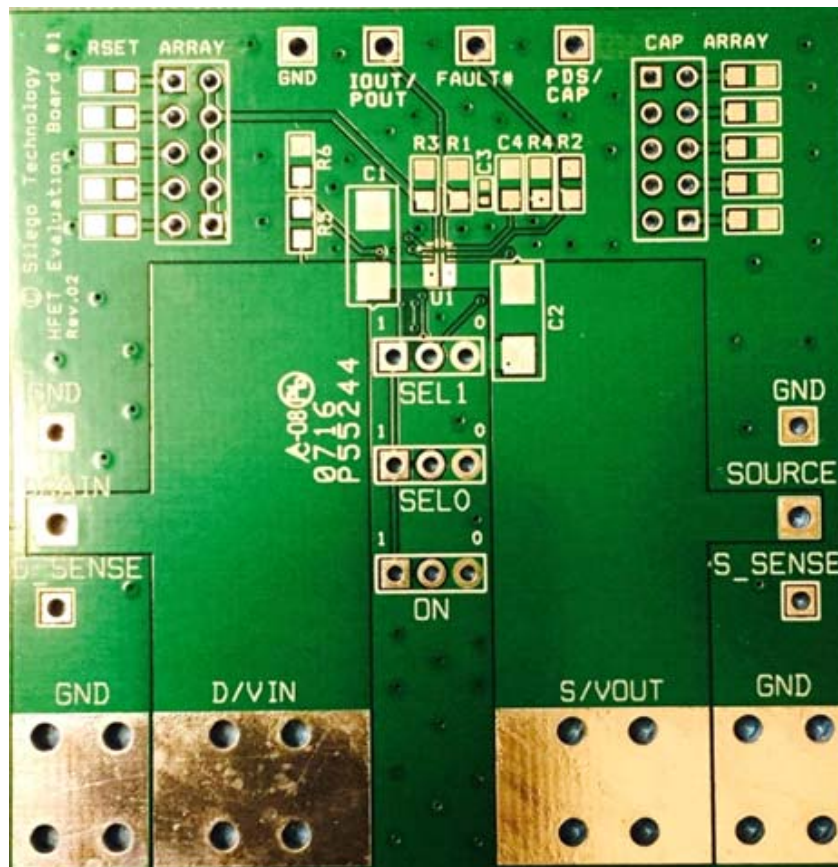

Figure 28. SLG59H1005V Evaluation Board
1. Since the VIN and VOUT pins dissipate most of the heat generated during high-load current operation, it is highly recommended to make power traces as short, direct, and wide as possible. A good practice is to make power traces with absolute minimum widths of 15 mils (0.381 mm) per Ampere. A representative layout, shown in Figure 28, illustrates proper techniques for heat to transfer as efficiently as possible out of the device;
A HFET1 Evaluation Board for SLG59H1005V is designed according to the statements above and is illustrated on Figure 28. Please note that evaluation board has D_Sense and S_Sense pads. They cannot carry high currents and dedicated only for $R_{DS(ON)}$ evaluation.